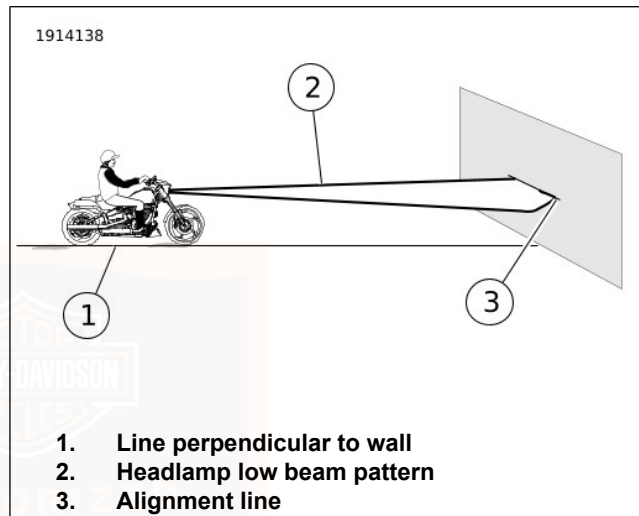

Figure 78. Headlamp Alignment
1. Figure 78 Park motorcycle on a line perpendicular to the wall (1) so front tire is pointed straight forward at the wall.
4. Figure 78 Draw an alignment line (3) at the calculated distance, on the wall directly in front of motorcycle.
6. Verify low beam pattern (2) cut off line is aligned with alignment line (3).